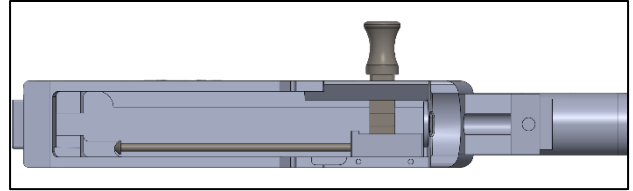

Figure 28
- With the bottom side of the receiver facing upwards, insert the long end of the cocking handle assembly into the receiver through the ejection port. Seat the pointed end of the cocking handle assembly into the rear seat in the receiver – Figure 28. The cocking handle assembly should sit flat in the receiver.